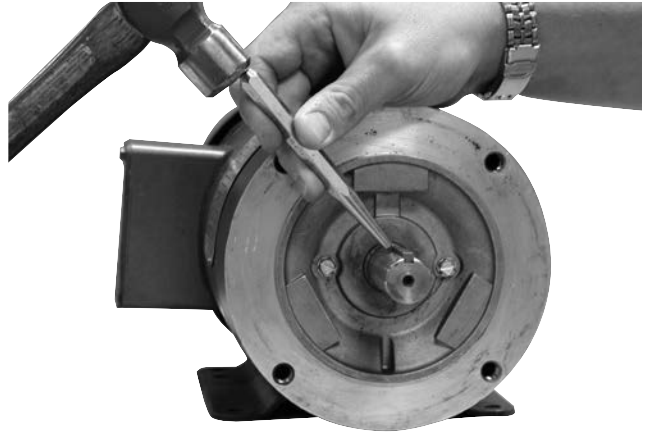

Figure 1
2. Insert the provided input key into the motor shaft keyway. If necessary, prick punch the motor shaft keyway to prevent the key from sliding back while installing the brake module. (Figure 1)